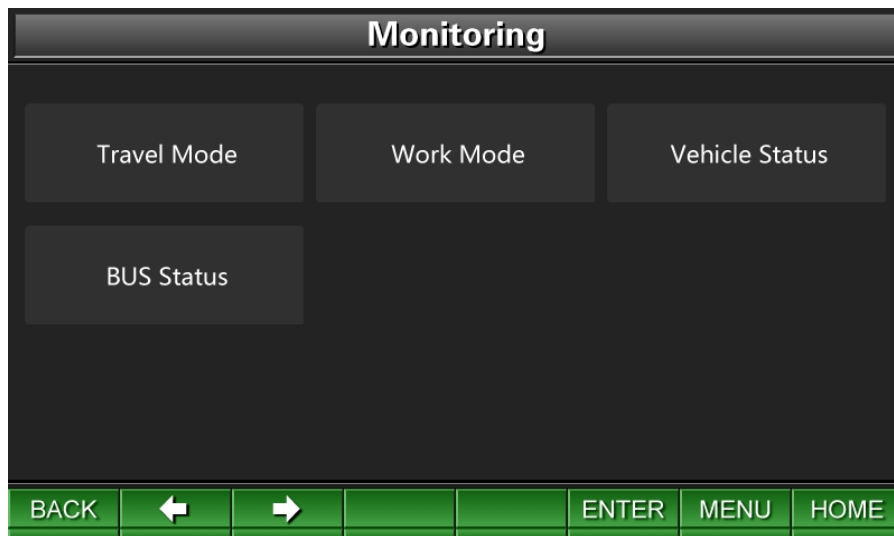

Figure 06 – 20 Monitoring
- (1) Travel mode: move the cursor to select the icon "Travel mode" and press the key "ENTER" to enter the Travel Mode Screen. See Figure 06 – 13.